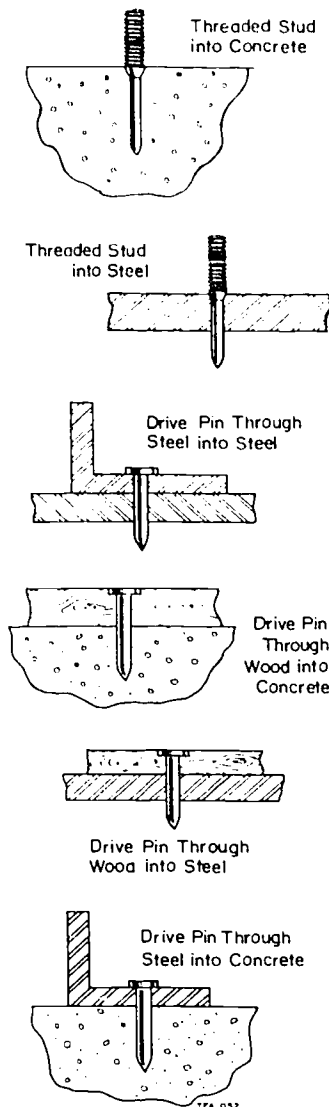

Figure 2-38. Fastener applications.
**Applications and Safety.** The wide variety of power loads and fasteners will help you on many jobs. Hanging ductwork from a concrete beam ceiling is one example of when this tool would save many man-hours work. It can be safely used to fasten through and into a wide variety of materials as shown in figure 2-38. Because of the nature of these tools, you must observe special safety precautions when using them. Following is a list of safety precautions from the Ramset owners manual; however, these precautions apply to all powder actuated tools.